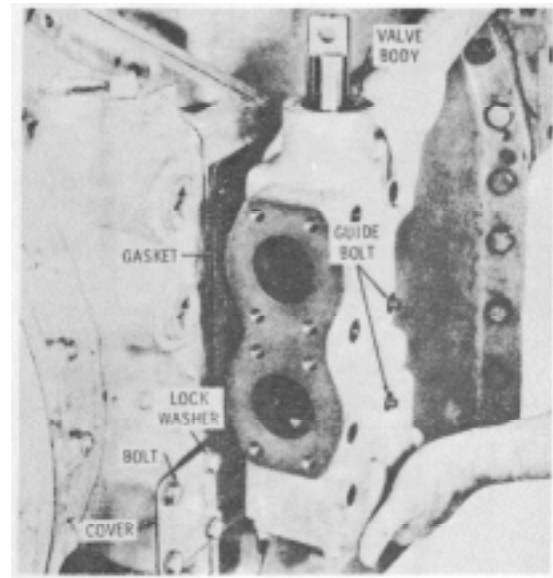

Figure 15-188. Installing Hydraulic Retarder Control Valve Body Assembly
17. Install two guide bolts into the retarder valve body mounting pad (Figure 15-188). Install retarder valve body gasket 03 (A, Foldout 7), restrictor plate 17, and gasket 18. Install the retarder valve body assembly (Figure 15-188) and secure with seven 3/8-16 x 4-1/4 inch bolts and lockwashers, removing the guide bolts to install the final two retaining bolts. Tighten the bolts to 26-32 lb ft (36-43 N.m).